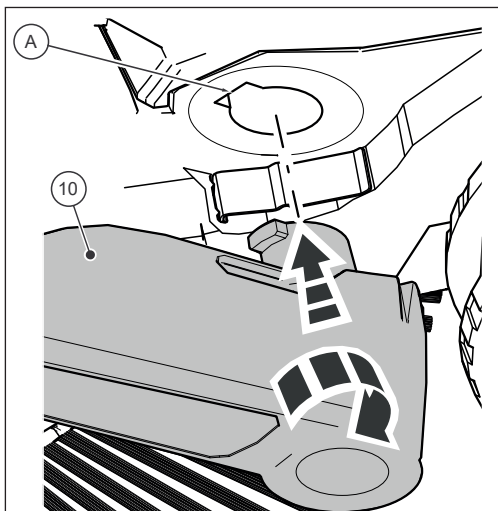

Fig. 3a
1. Position yourself between the push bar (1) in front of the appliance.
2. Place one of the two handle fittings with the latching lug on the handle fitting (10) to the groove provided on the frame (A) so that it so that it can snap into place (Fig 3a.).